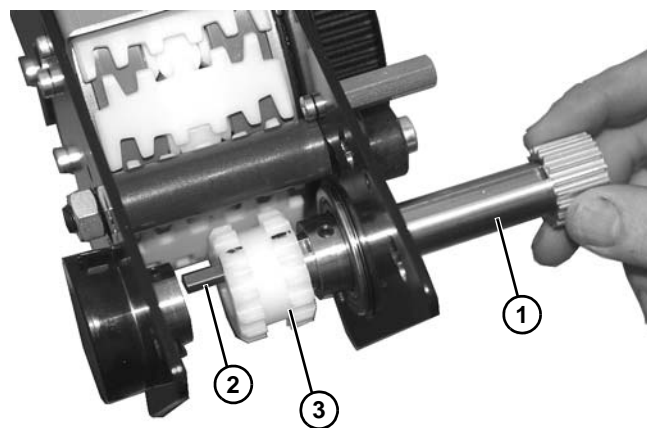

Figure 167
16. Remove drive shaft (Figure 167, item 1), making certain not to lose key (Figure 167, item 2) when removing gear (Figure 167, item 3).